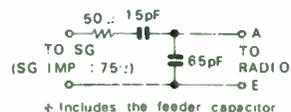

Fig. 1 Antenna Pad
- Antenna Pad: Refer to Fig. 1 & 2.
- Connect the signal generator to the antenna receptacle through the antenna pad. (Fig. 1 & 2)